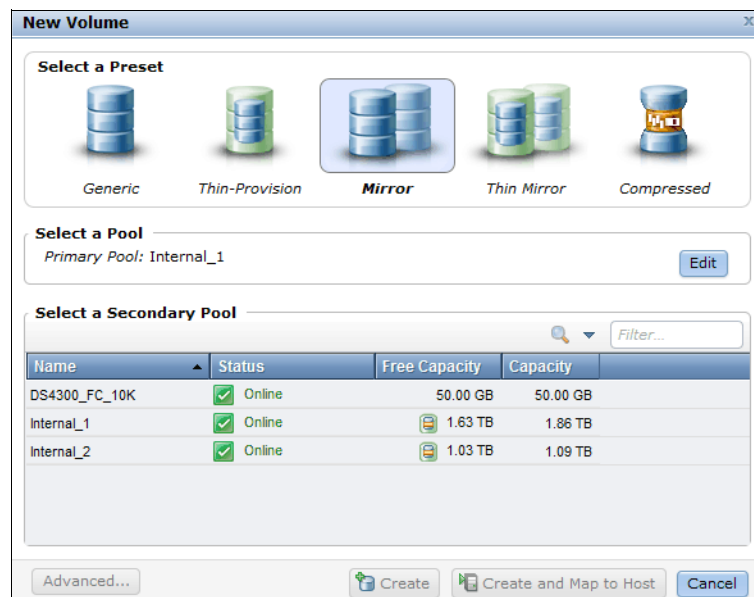

Figure 6-11 Create a mirrored volume - Select the secondary pool
2. Select the primary pool by clicking it and the view changes to the second pool (Figure 6-11).